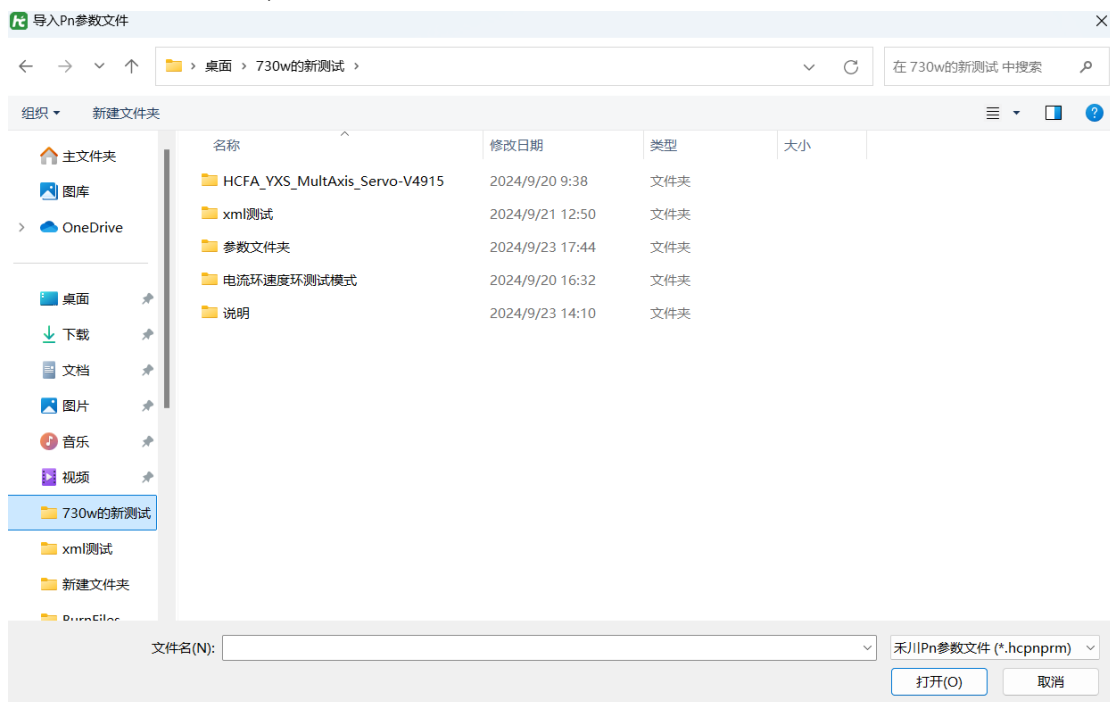

Figure2-19
11) Click the Import Parameter File button in the parameter interface to open the dialog shown in Figure 2-19. Select the desired parameter file by specifying its location and filename, then click Open to load it.